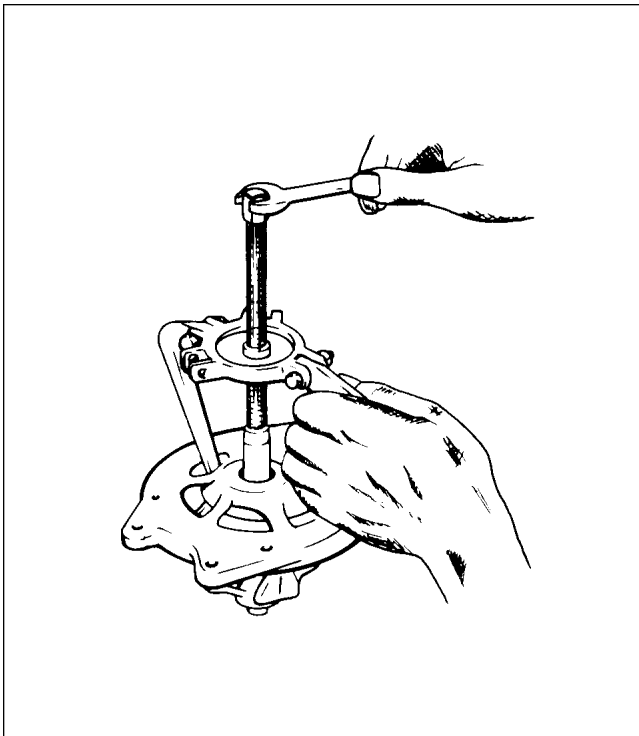
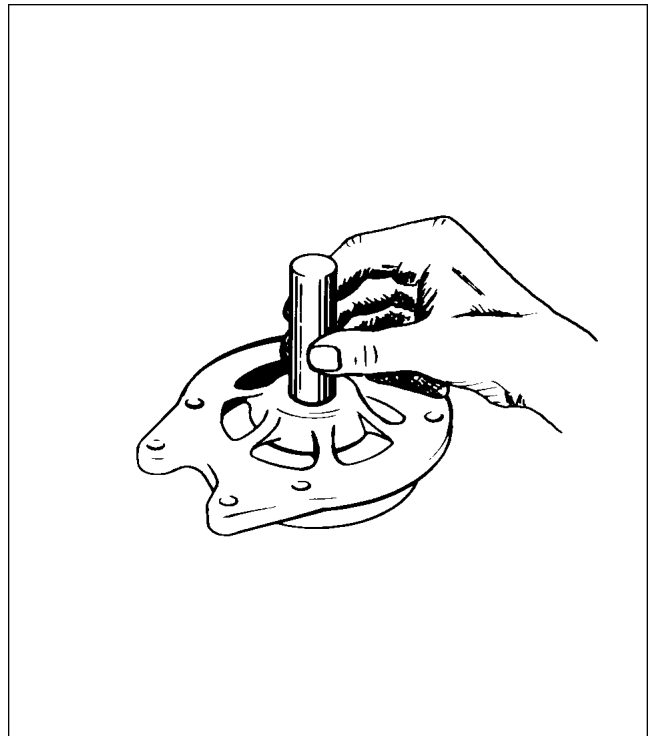

Figure 24-5. Removal of Drive End Head
Figure 24-6. Removal of End Head Bearing
- f. To remove drive end head from rotor shaft, use a puller that grips on bearing retainer plate as in Figure 24-5. Do not attempt to remove by supporting end head and pressing on shaft, as this may result in distortion of end head or stripping of retainer plate screws. Remove three retainer plate screws and press bearing out of end head. (Refer to Figure 24-6.)